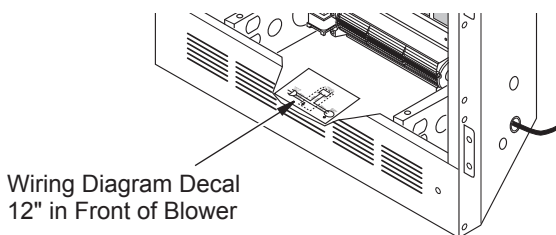

Figure 27 - Location of Wiring Diagram Decal (Model May Vary From Illustration)
10. Peel off the backing paper and stick the supplied wiring diagram decal on the firebox bottom approximately 12" in front of the blower (see Figure 27).
- Peel off the backing paper and stick the supplied wiring diagram decal on the firebox bottom approximately 12" in front of the blower (see Figure 27, page 17).